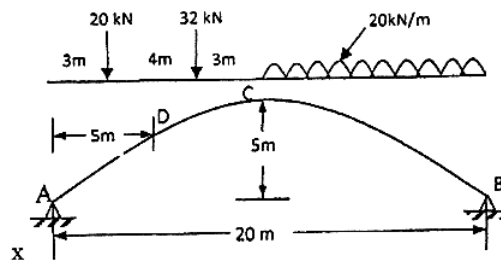

Fig. 13 (b)
- (b) A parabolic 3 hinged arch shown in Fig. 13 (b) carries loads as indicated. Determine :